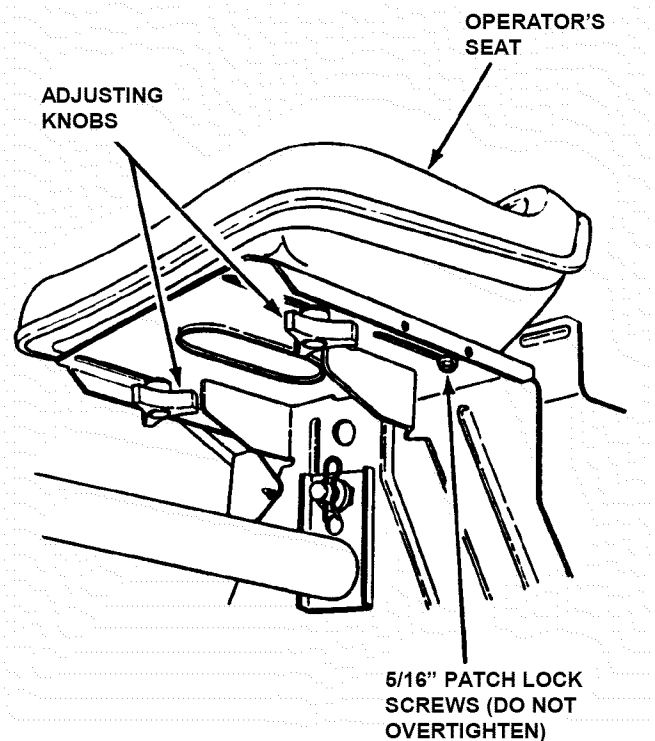

FIGURE 2.3
2.1.4. Adjust seat as needed to most comfortable position. Refer to Section "OPERATOR'S SEAT ADJUSTMENT". See Figure 2.3.
1. With the engine stopped, loosen the two adjusting knobs and move seat to desired position. After adjustment, tighten knobs securely. If seat does not move after loosening knobs, it may be necessary to loosen the 5/16" patch lock screws located at the rear of the seat using a 1/2 inch wrench. The adjusting knobs need to be positioned as shown so as not to interfere with seat mounting plate when returned to sitting position. See Figure 2.3.